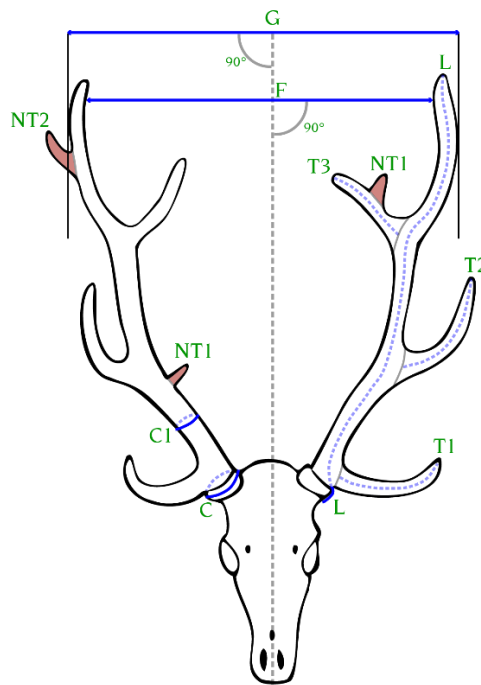
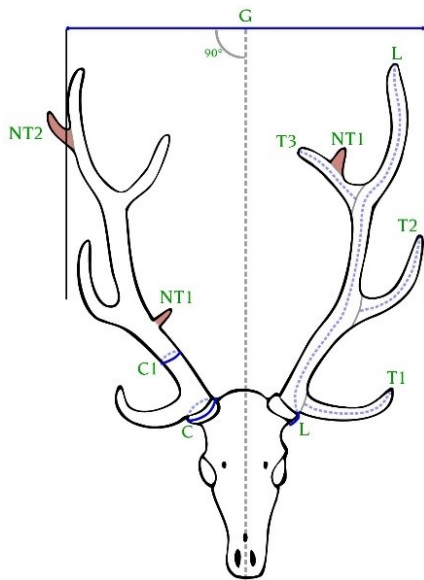
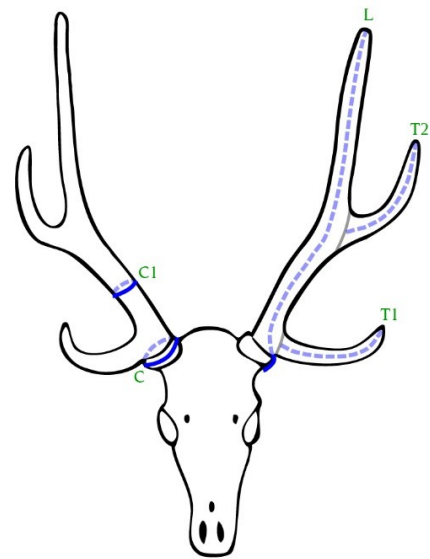

Figure 1 (Sika deer)
Figure 8
Figure 10
Figure 1 shows all elements that are measured for the deer that fall under Method 1-f. (1) Main beam (L). (2) Length all typical tines, T1, T2, and T3. (3) Circumferences of burr (C) and main beam (C1). (4) Spread (G), which is taken from typical antler to typical antler only, note that NT2 is excluded from the spread measurement. Then there is (5) span (F) taken on the inside of the main beams and, finally, (6) Length of all NT tines, NT1 and NT2 on right side and NT1 on left side.
1. Identify tines. Start by drawing a baseline for all tines, T and NT, with a pencil (Figure 1), as explained in GDI. Do this even if they appear to be slightly less than 1 inch so as to not miss a potential valid point. All tines must be 1 inch or more and not be any wider along the baseline than they are long to be valid.
4. Nontypical Tines. Measure the length of all nontypical tines of 1 inch or more. Measure from the tine end to the baseline. (Figures 1, 2, and 8: NT1, NT2, NT3, etc.) Nontypical tines do not count toward the total score and are not deducted but are shown as supplemental information. The exception is the Manchurian and Siberian roe; see below.
5. Circumference. Use a steel tape, not a cable, and maintain a tight tape in a continuous loop. For the burr (C), go over the top of normal (less than $\frac{2}{8}$ -inch or 6mm) protrusions or pearling. Do not press the tape into indentations. Projections growing from the burr that are $\frac{2}{8}$ inch or 6mm long or longer must not be included in the measurement; see GDI. For the circumference of the main beam, measure the smallest place between the brow (T1) and the next (T2) typical tine. (C1 on figures 1 through 12) Keep the tape tight around the antler and go up and down the axis of the main beam till you find the smallest place.
8. Spread. *(This is a supplemental measurement but required.)* Only typical tines or beam points may be used to measure the spread. To measure the spread, one can either use a carpenter's folding ruler or a combination of a tape and carpenter's triangles. With a folding ruler, take a measurement from the farthest tine or main beam on the left side to the farthest tine or main beam on the right side and measure at an exact 90-degree angle to the centerline of the skull. With a tape, lay the rack on a smooth and level floor and then place two large carpenter's triangles (an L-shaped device made of hard plastic or metal that can stand up straight) on both ends of the farthest sideways extension of the antlers. If the rack has uneven main beams, shim the antlers up with pieces of wood so that the skull does not cant to either the left or the right when viewed from straight in front. Under Method 1-f, do not measure any NT tines that protrude on the outside of a rack because that would increase the spread value. (Figure 8: G.) When a NT tine is found on the outside of a rack (Figure 1, NT 2) even if this NT tine is not a valid tine, a base line must be drawn (see GDI) and the spread measurement must be taken from this line as though the tine were not there.
Sika deer are the only deer in this method that can have two typical configurations. The smaller subspecies, such as the Japanese sika, normally has only three typical points per side. (Figure 10) The main beam is normally the highest point on a rack, and it goes fairly straight up. There is a brow tine right above the burr and on the top third of the main beam, there is one tine pointing sideways/backward; this tine will, in rare cases, surpass the height of main beam tip. The 4x4 configuration in sikas occurs in the larger subspecies such as the Manchurian or Dybowski's sika and the northern Japanese sika. (Figures 8 and 9) They can have
an additional set of prominent tines curving forward from the main beams about halfway to 2/3 up the main beam. With a 4x4 configuration it is sometimes possible to have the two top tines grow forward. RW considers the two most outside and highest typical points the main beams. Only tines on 3x3, 3x4, 4x3 and 4x4 racks as described above are typical; all other tines are NT. (Figures 8, 9 and 10)